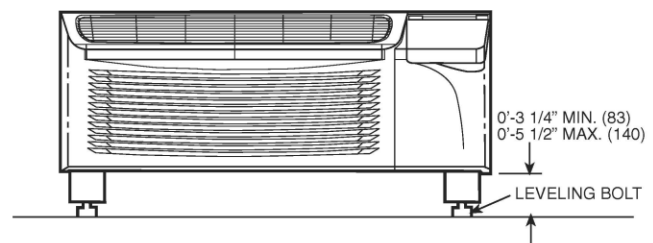

Fig. 4 — Leveling Legs (Front View)
Step 3 — Adjust leveling bolts to properly level and support sleeve (see Fig. 4).